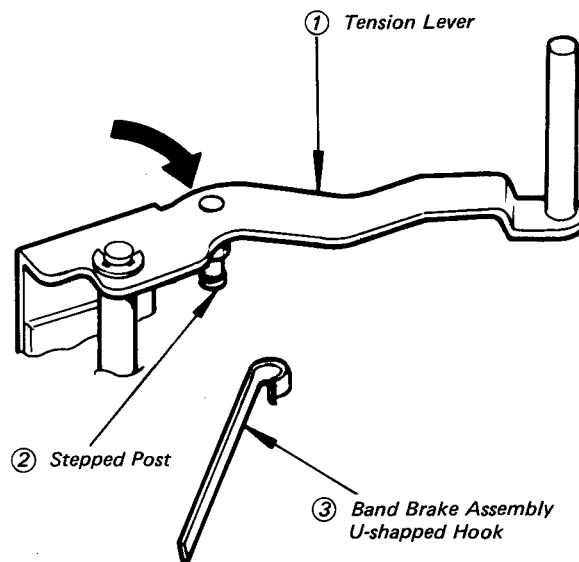
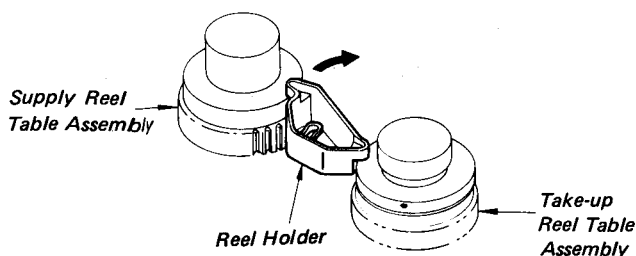

Fig. 5-37 Band Brake Removal
Fig. 5-39 RF Lever Holder Detaching
3. Turn the FR lever holder in the arrow direction (↻) (see Fig. 5-39).
4. Press the tension lever ① on the vicinity of its root so as to turn a little in the arrow direction (↻).
5. Detach the U-shaped hook of the band brake assembly ③ from the stepped post ② (see Fig. 5-37).
5. Turn the reel holder in the arrow direction (↺) in Fig. 5-39.
- NOTES:** 1. Return the FR lever to the original position (Fig. 5-39).